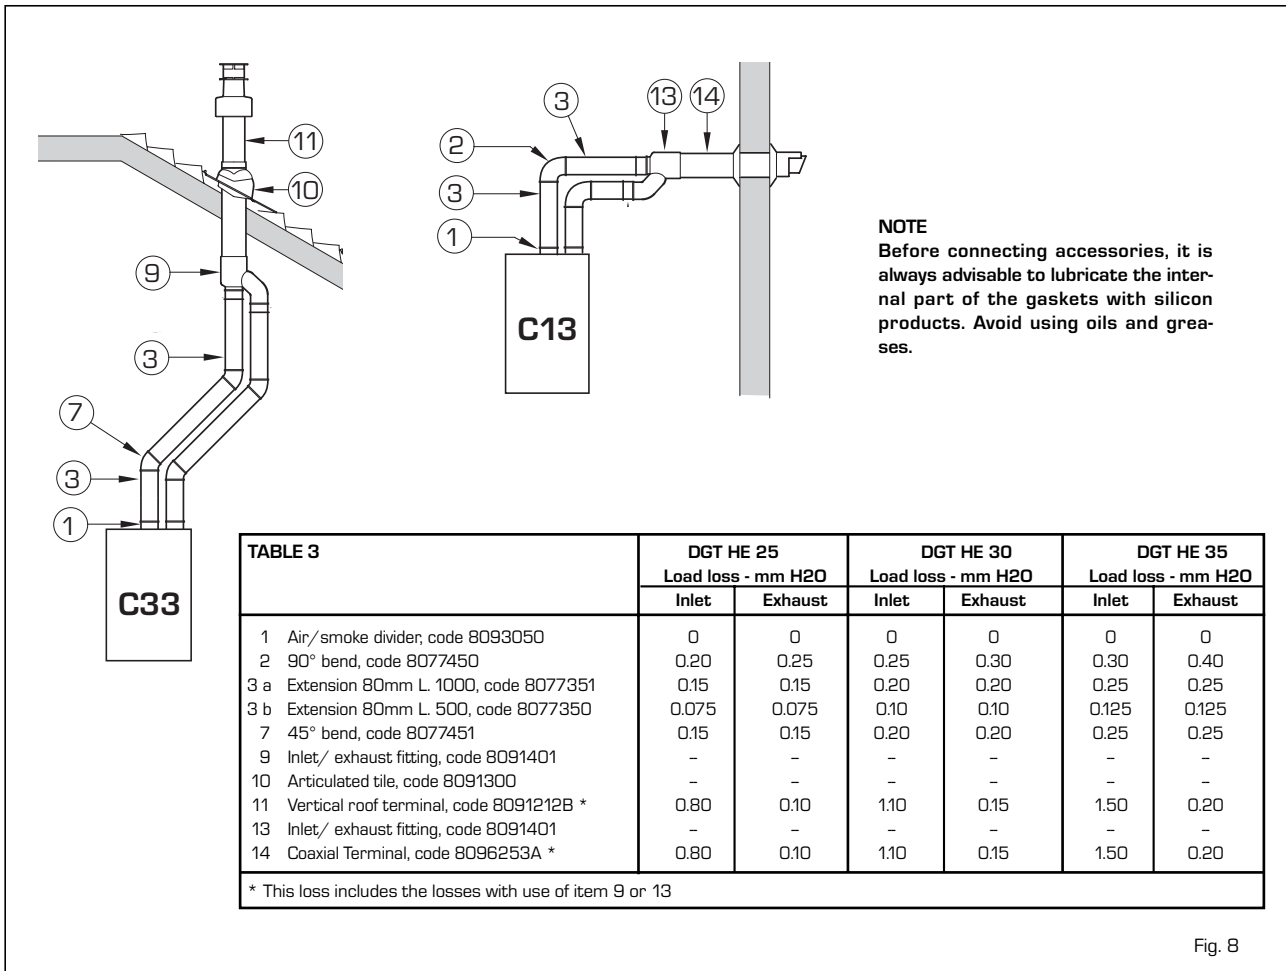

Fig. 8
See **Table 3** for information on the load losses of single accessories (fig. 8).
2.6.1 Separate ducts kit (fig. 8)
The diagrams of Figure 8 show a couple of examples of the permitted exhausts configurations.